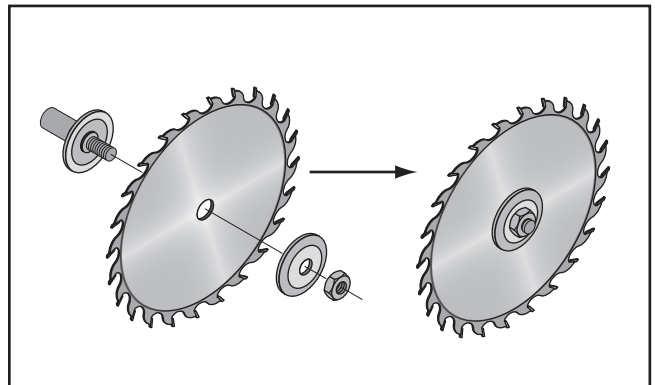

Figure 3. Example of correct blade direction and blade components installation order.
4. Slide the blade over the arbor with the teeth facing the front of the saw, as shown in Figure 3.